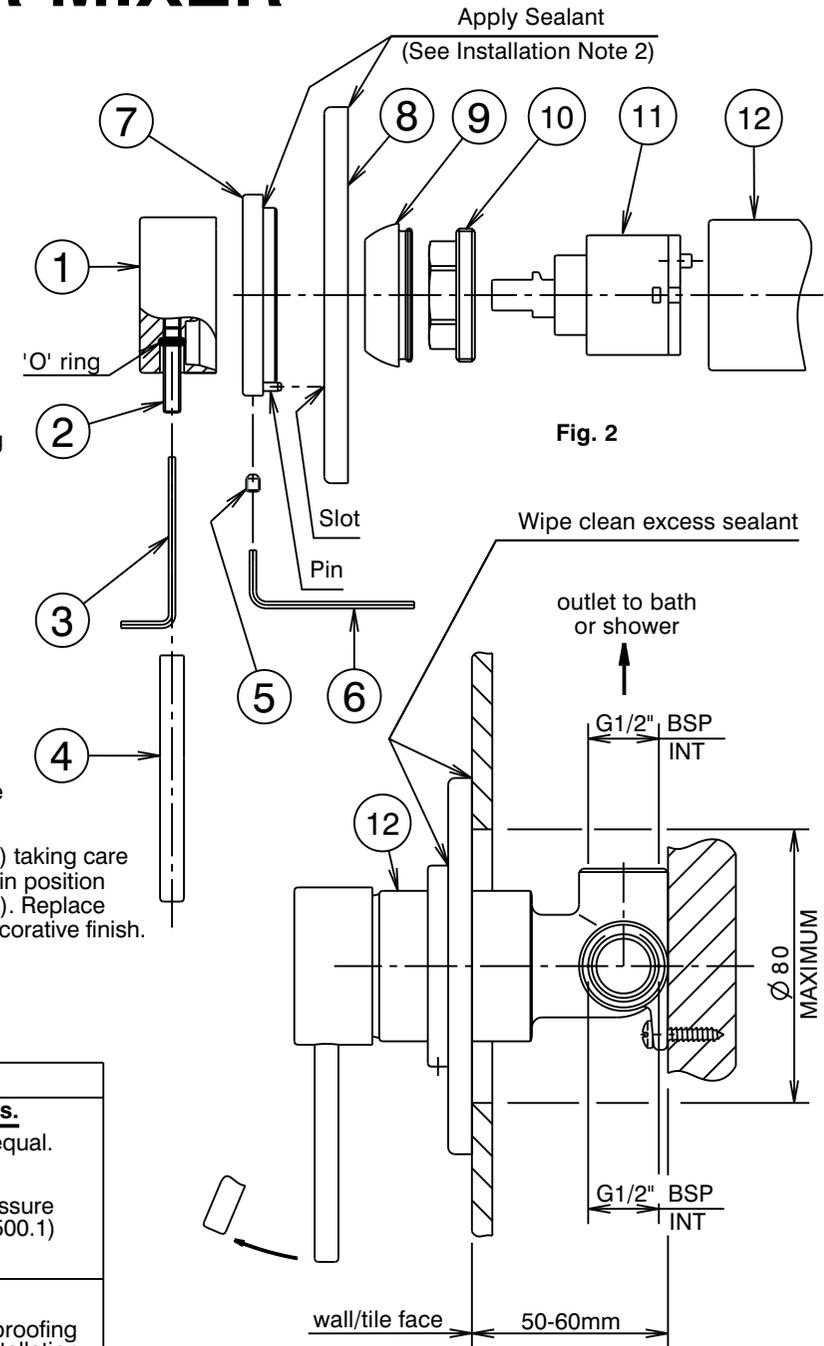

Fig. 1
Installation (Fig. 1 & 2)
- * Mixer body (12) must be installed square to wall/tile face, to ensure cover plate (8) sits flush.
- 2) Apply a suitable clear sealant to the back edge of the cover plate (8), leaving an unsealed section at the bottom for drainage. Apply a suitable clear sealant in the corner around the location diameter of the retaining ring (7), to prevent water entering the wall cavity (See Fig. 2). Carefully fit the cover plate (8) followed by the retaining ring (7) onto the mixer body (12), ensuring the slot in the cover plate is at the bottom & the pin in the retaining ring is engaged in the slot (with the screws at the bottom). Push the retaining ring and cover plate firmly against the wall/tile face and tighten screws (5) using 2mm allen key (6). Wipe clean any excess sealant from the chrome surfaces & the wall/tile face (See Fig. 1).
- 3) Fit handle (1) taking care that it is pushed fully down. Ensure that 'O'ring is in position in handle (1) as shown then tighten grub screw (2) using allen key (3). Screw on handle lever (4) taking care not to damage the decorative finish.